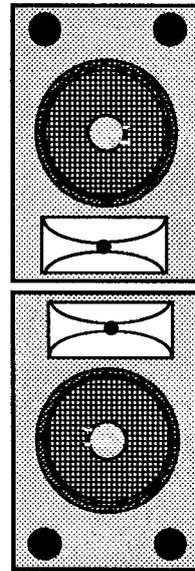

Figure 18-3. Intentionally narrow vertical dispersion
Figure 18-3 illustrates a technique that can be used with full range enclosures employing a vented woofer and radial type high frequency horn. The high horns are placed together, since stacking them in this way causes their vertical angle to narrow. At low frequencies, the coverage of the system also narrows somewhat, since the total effective radiating area will be comparable to the wavelength.
**NOTE 2:** The configuration shown in Figure 18-3 will work only with loudspeakers employing radial, or modified radial, high frequency horns.